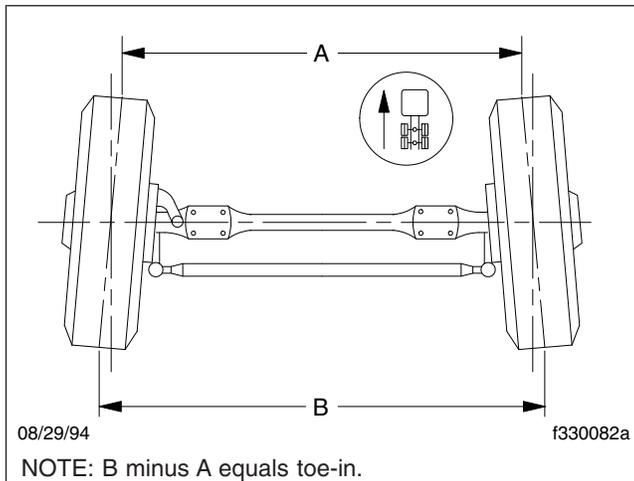

Fig. 6, Wheel Toe-In (overhead view)
6. Place a trammel bar at the rear of the front tires; locate the trammel pointers at spindle height, and adjust the pointers to line up with the scribe lines on the center ribs of the front tires. See **Fig. 6**. Lock the pointers in place. Check that the scale is set to zero.